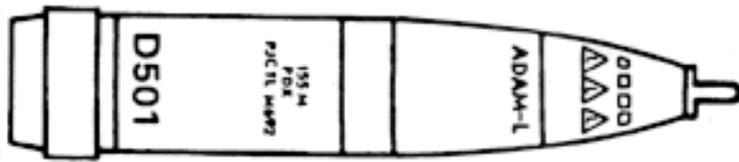

Figure 2-18. M692 (ADAM) projectile
i. **Projectile, 155-mm, HE, M692.** This projectile is known as the area denial artillery ammunition (ADAM). These projectiles carry mines as submunitions. These submunitions are antipersonnel mines that deny the enemy free use of certain areas for a period of time. After scattering over the target area, the mines can be detonated by being disturbed or they self destruct at a pre-set time to allow friendly troops to move through the area. The most significant markings are the row of yellow triangles with the letter L in them and the letters ADAM-L between the nose and bourrelet (Figure 2-18). The letter L indicates a long self-destruct time for the submunitions. This is a base-ejection type projectile and uses the M577 time fuze.